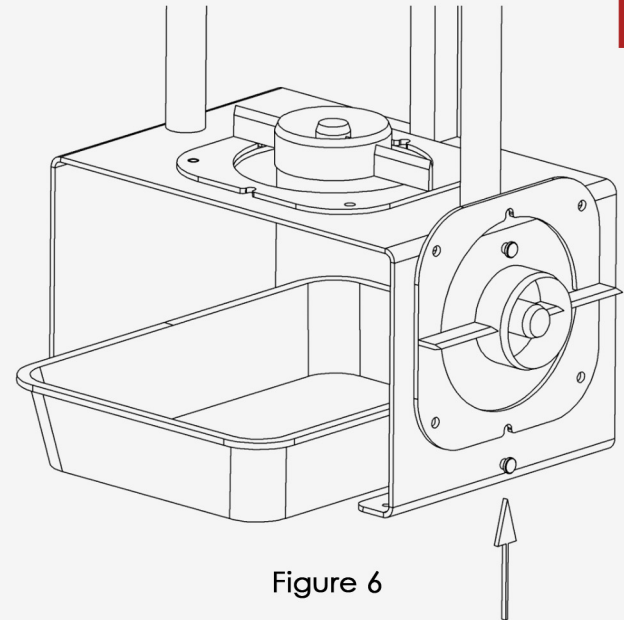

Figure 6
- ✓ If you bought extra knife, You can install a replacement blade side (Figure 6).